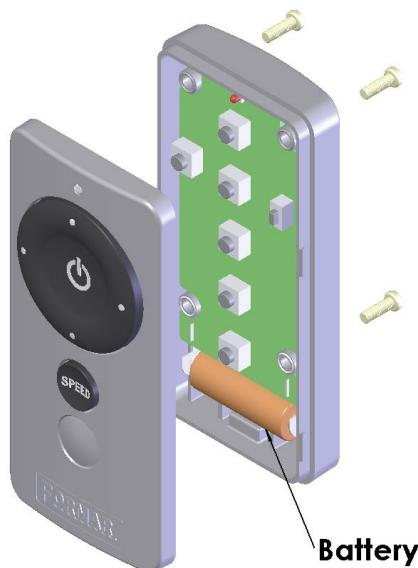

Fig. 3 Battery Location in Remote Controller
2. Loosen the four (4) screws from back cover of Remote Controller.
3. Carefully dissemble Remote Controller, see details in Fig.3.